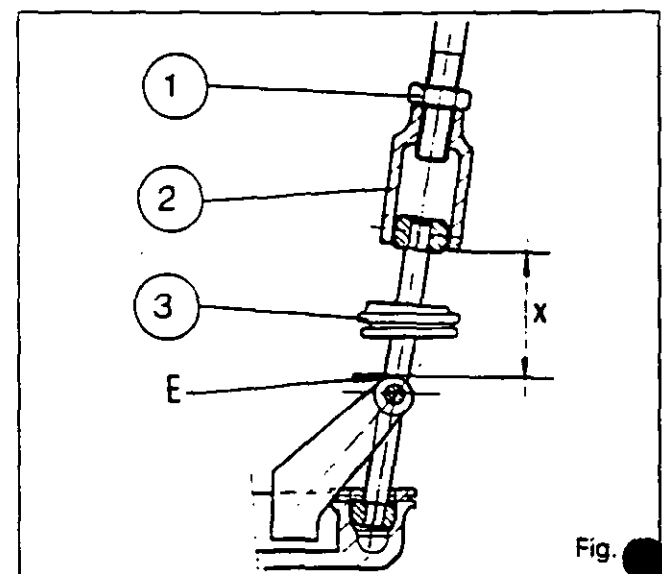

Fig. 6
49. Unlock nuts (1). Adjust the sleeves (2) so as to obtain a dimension X between the base of the sleeve and shoulder "E" on each lever (see Fig. 6). Tighten the nuts to a torque of 50 Nm and position the dust cover (3).